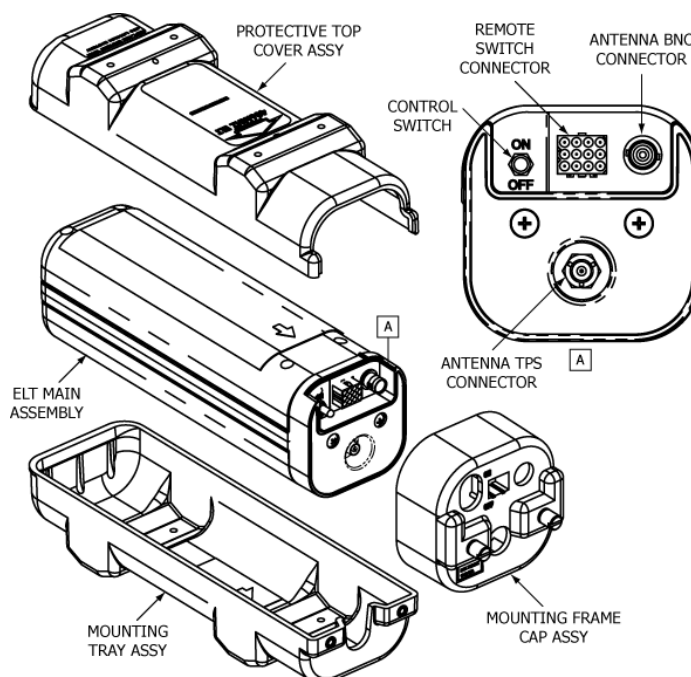

Figure 1 B406-4 ELT and Mounting Frame Assembly
- 1) The B406-4 ELT main assembly is housed in a high impact, fire resistant, polycarbonate plastic case, which is enclosed in a protective mounting frame assembly made of similar material. See Figure 1 B406-4 ELT and Mounting Frame Assembly.